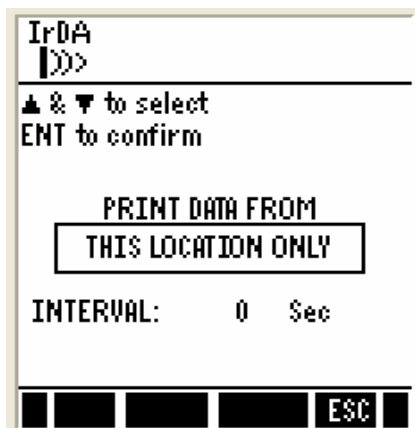

Figure 37 : Selecting options for printing memory locations
4. Press **PRIN (F2)**. The screen appears for you to select printing options (Figure 37). This allows you to choose either all memory locations or the current memory location for transfer.